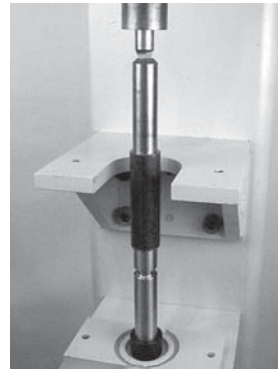

Figure 43
6. Using an arbor press or similar device, press bearing onto pulley shaft (**Figure 43**).